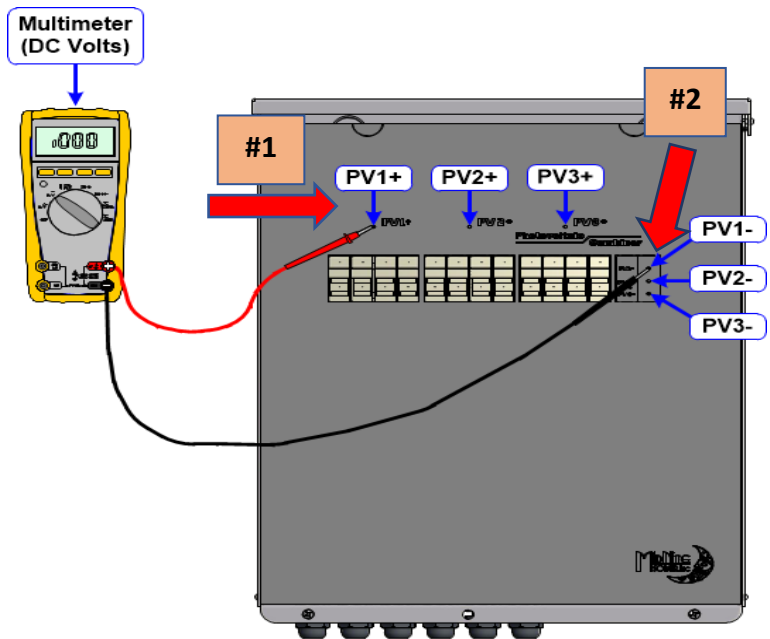

Figure 3
## Check Live Circuit Before Removing PV Combiner Deadfront (Figure 3)
- Measure between test points **PV1+** (Figure 3, #1) and **PV1-** (Figure 3, #2) for voltage.